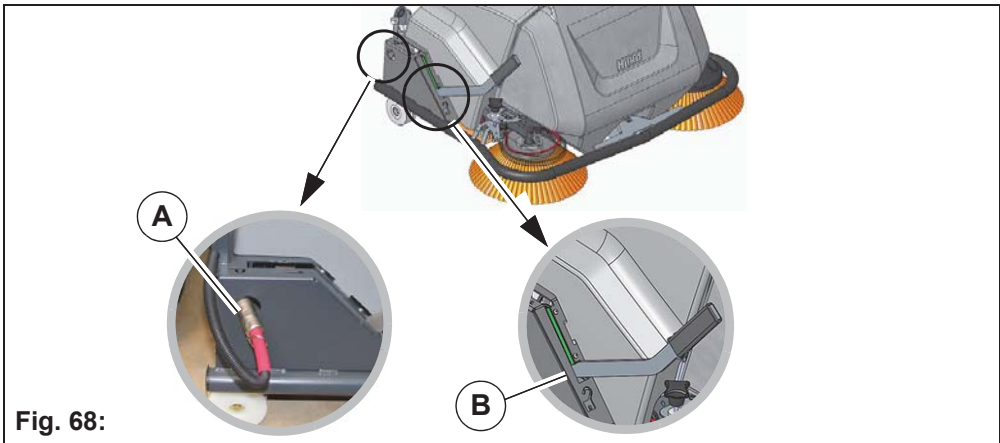

Fig. 68:
1. Unplug the plug at the machine side and plug into the retaining hole **Fig. 68-A**.
2. Move the lever to the change/parking position **Fig. 68-B**.